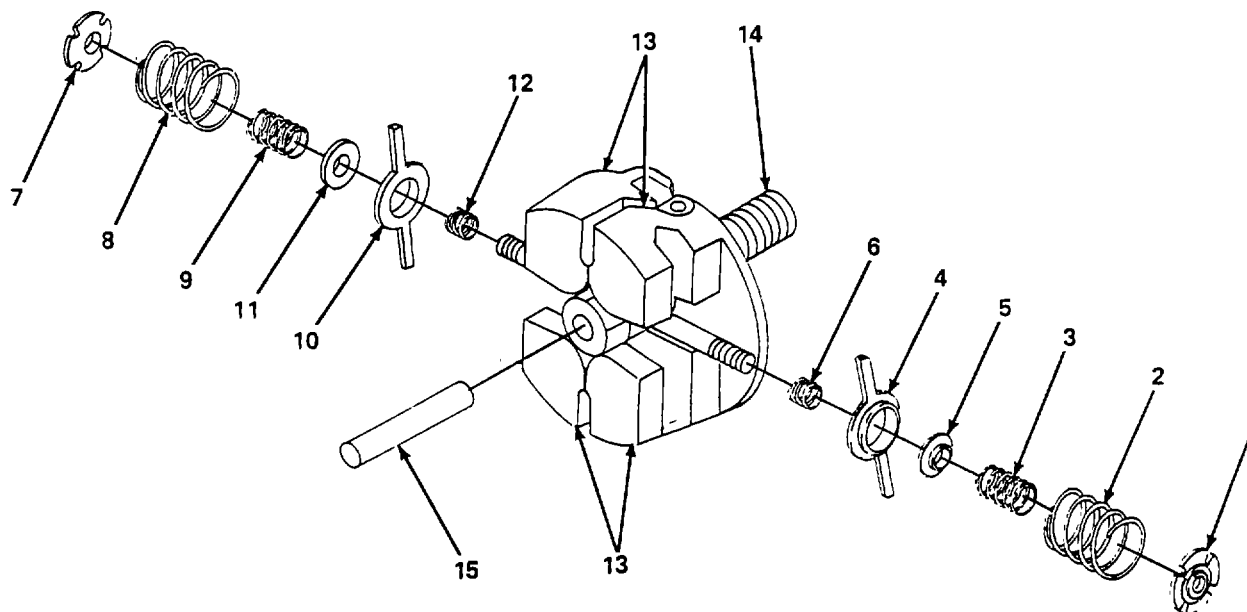

Figure 6-14. Governor Assembly, Repair.
b. Repair. (figure 6-14)
- (1) Remove governor assembly (para. a.).
- (2) Remove locknut (1), spring (2), spring (3), lock tab (4), spring seat (5), and spring (6).
- (3) Remove locknut (7), spring (8), spring (9), lock tab (10), spring seat (11), and spring (12).